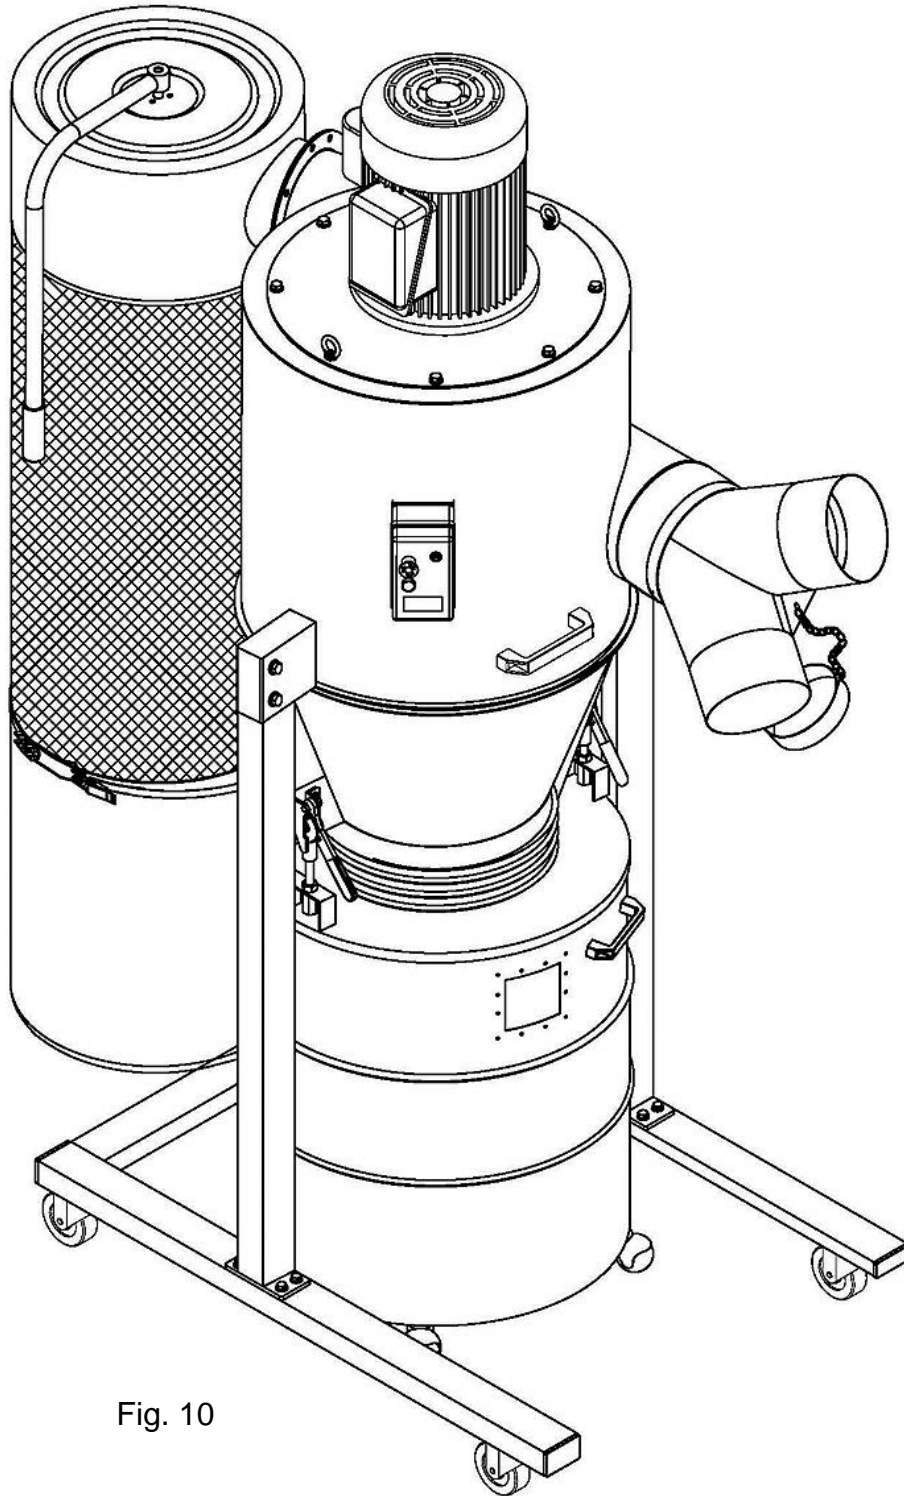

Fig. 10
13. All the assembly steps are completed. See (FIG. 10)